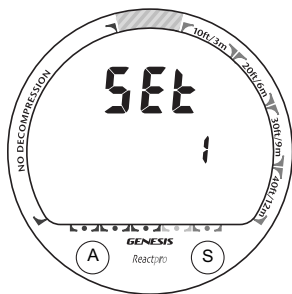

Fig. 14 - Set 1
- after 2 seconds, the Set 1 screen appears (Fig. 14)